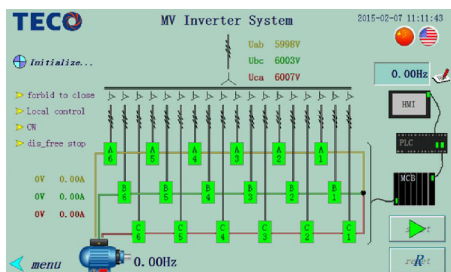

Fig.4
- Systematic Control on Touch Panel (Fig.4)
- Monitor & Control for Operational Status (Fig.4)